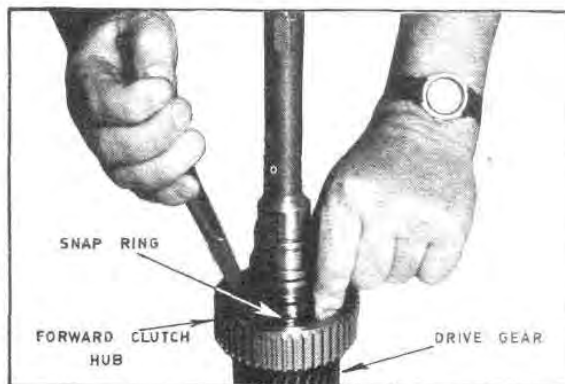

Fig. G66 — Installing the Clutch Hub Snap Ring
29. Invert the drive gear and associated parts assembled in steps (26) to (28) and install the snap ring in the groove provided in the drive gear (Figure G66).